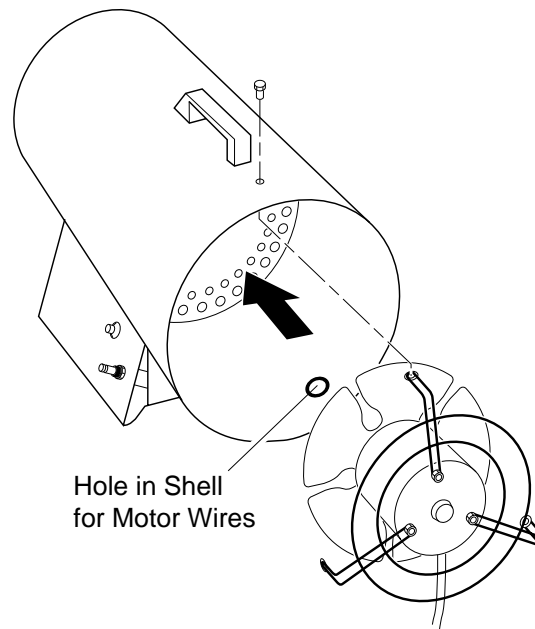

Figure 10 - Replacing Motor and Fan Guard into Heater
12. Place motor and fan guard into rear of heater shell. Carefully route motor wires through hole in shell (see Figure 10).